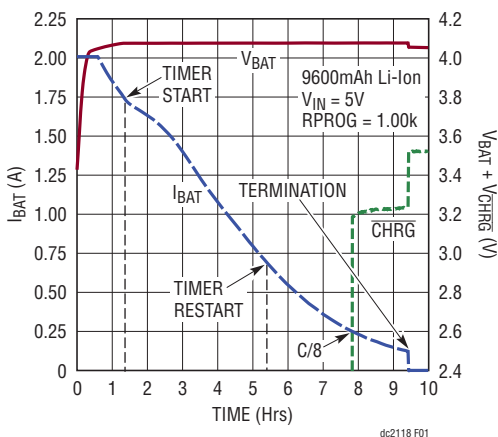

Figure 1. Typical Battery Charge Cycle
6. The $\overline{\text{CHRG}}$ LED will toggle off when the charge current has dropped below 250mA. The timer will continue to run and charging will continue until the timer period ends. Multiple timer periods may be necessary to fully charge a large capacity battery, such as the one used to obtain Figure 1.